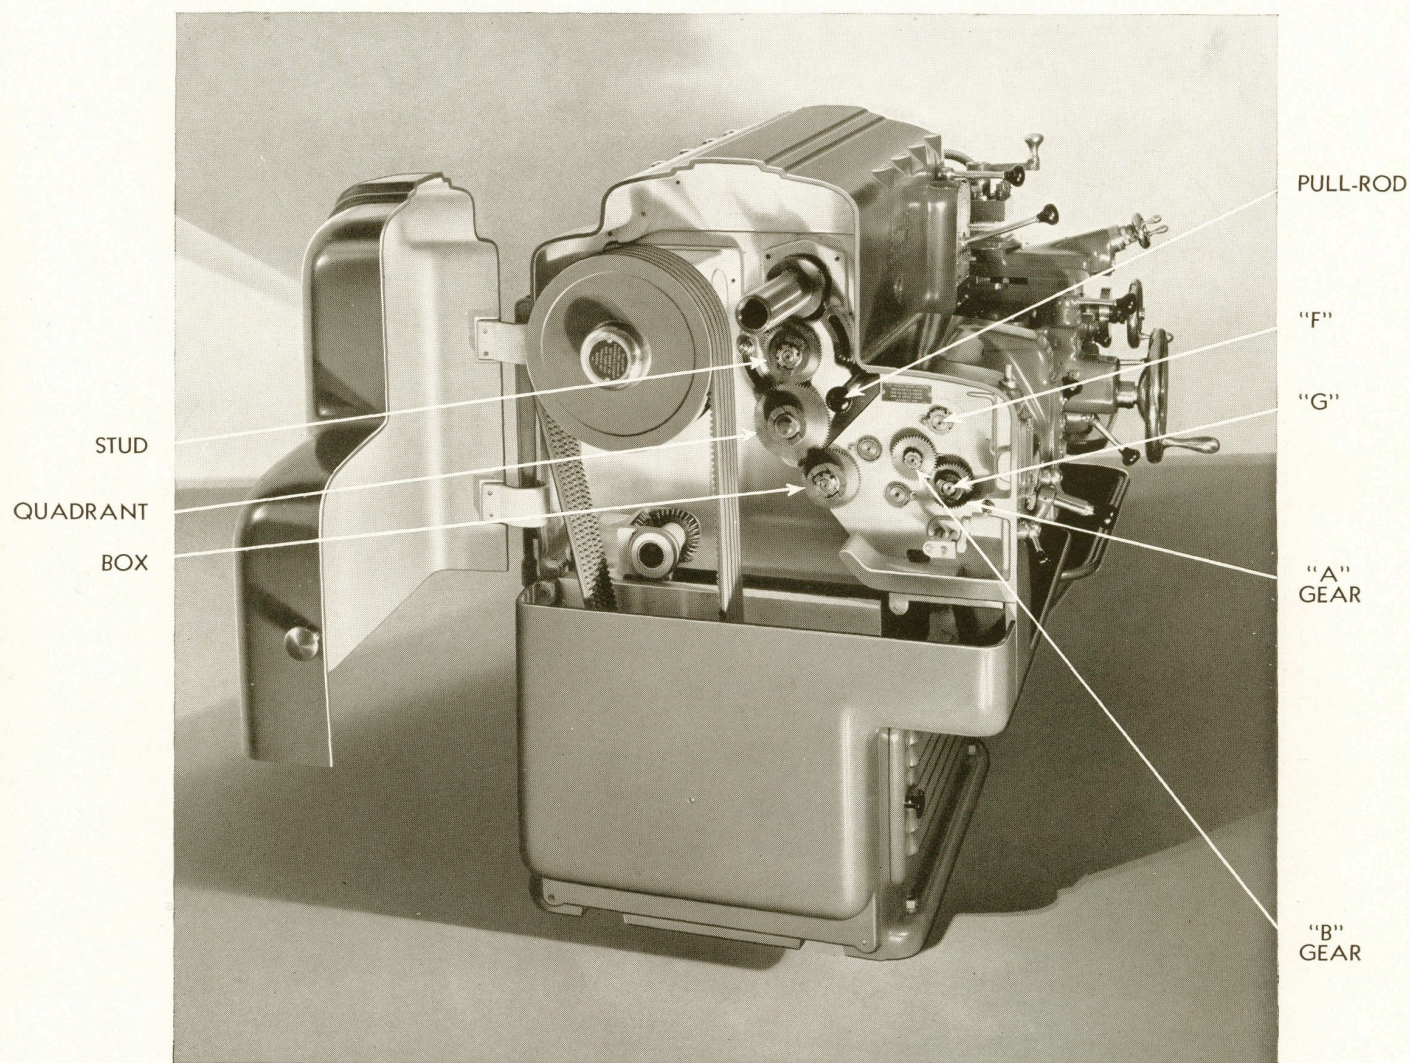
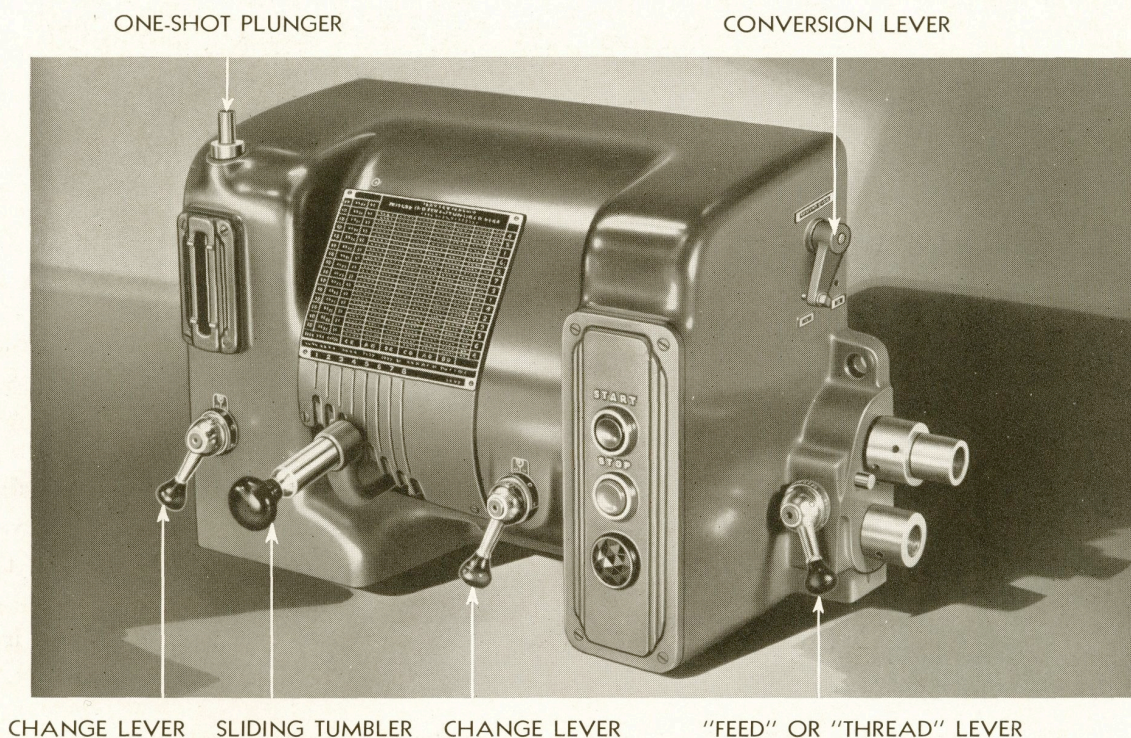

Figure No. 6, Head-End, showing Swinging Cover open.
Figure No. 7, Metric Quick Change Gear Box.
**CHANGE GEARS AND GEAR BOX**—On all English lathes a standard English range is furnished and every change on the index plate on the front of the box is obtained without changing any of the head end gears. The two outside gears, "A" and "B", Figure No. 6, page 11, should never be removed on English lathes. In addition to the standard range, other ranges may be secured by the addition of suitable gearing, namely:
To obtain these additional ranges, first arrange the change gears to correspond to the stud, quadrant, and box gears shown on the plate which is furnished for that particular range and which is attached to the inside of the swinging cover. Second, make sure that for all metric leads and feeds the "A" gear, Figure No. 6, page 11, is on the cone shaft "F" and the small conversion lever on the opposite side of the box, Figure No. 7, is at position No. 1; and make sure that for transposed English leads and feeds the "A" gear is on the tumbler shaft "G" and the small conversion lever on the opposite side of the box is at position No. 2.
**FEED ROD AND LEADSCREW**—The feed rod and leadscrew are independent of one another and when one is running the other is stationary. To change the drive from one to the other merely position the small lever, Figure No. 7, page 12, on the side of the gear box to read "FEED" or "THREAD".